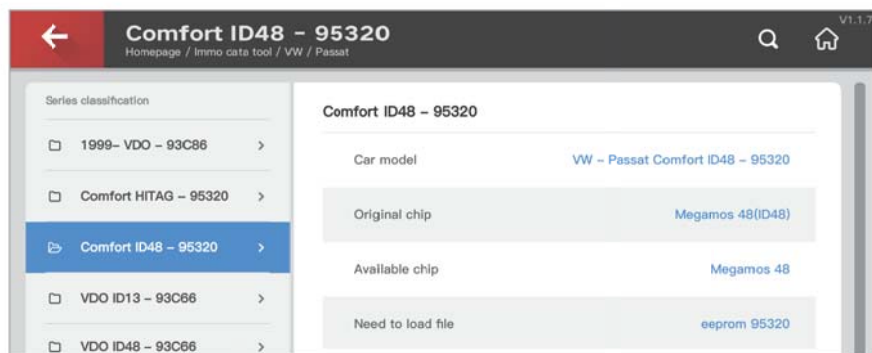

Fig.8.2.1
- ① Choose VW/Magotan, CC ID48– 95320 option as shown in Fig. 8.2.1.